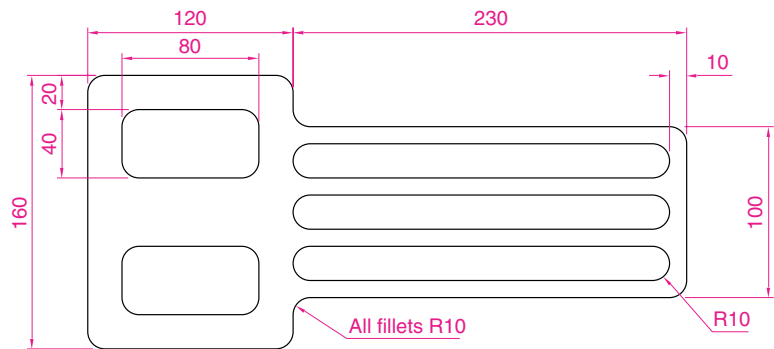

Fig. 5.46 Exercise 1
1. Construct the drawing in Fig. 5.46. All parts are plines of width = **0.7** with corners filleted R10. The long strips have been constructed using **Circle**, **Polyline**, **Trim** and **Polyline Edit**. Construct one strip and then copy it using **Copy**.